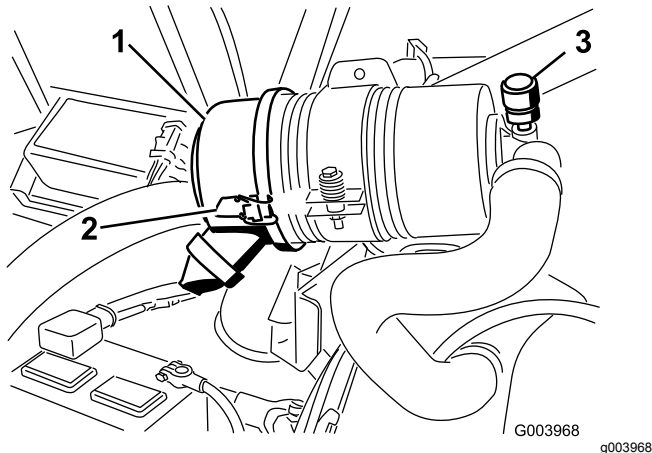

Figure 51
Service the air cleaner filter only when the service indicator (Figure 51) requires it. Changing the air filter before it is necessary only increases the chance of dirt entering the engine when the filter is removed.
1. Release the latches securing the air-cleaner cover to the air-cleaner body (Figure 51).